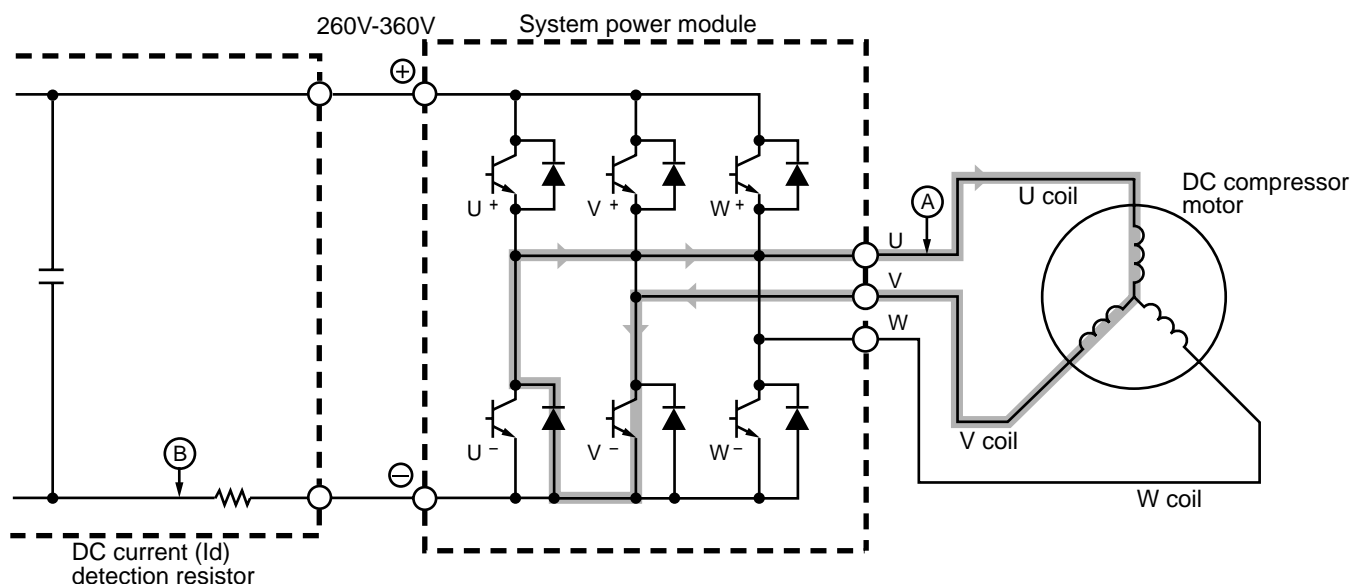

Fig. 3-4 System power module circuit (U^+ is ON, V^- is ON)
- (2) When U^+ transistor is OFF: (by inductance of motor coil) U coil \rightarrow V coil \rightarrow V^- transistor \rightarrow Return diode \rightarrow Point (A) (Fig. 3-4)